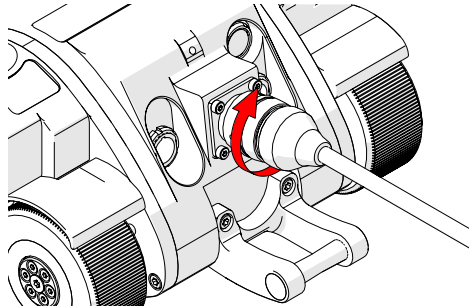

Fig. 61 - Press and rotate to seat pins of umbilical
2. Rotate the umbilical until the umbilical becomes seated in the pins of the umbilical connection (*Fig. 61*).